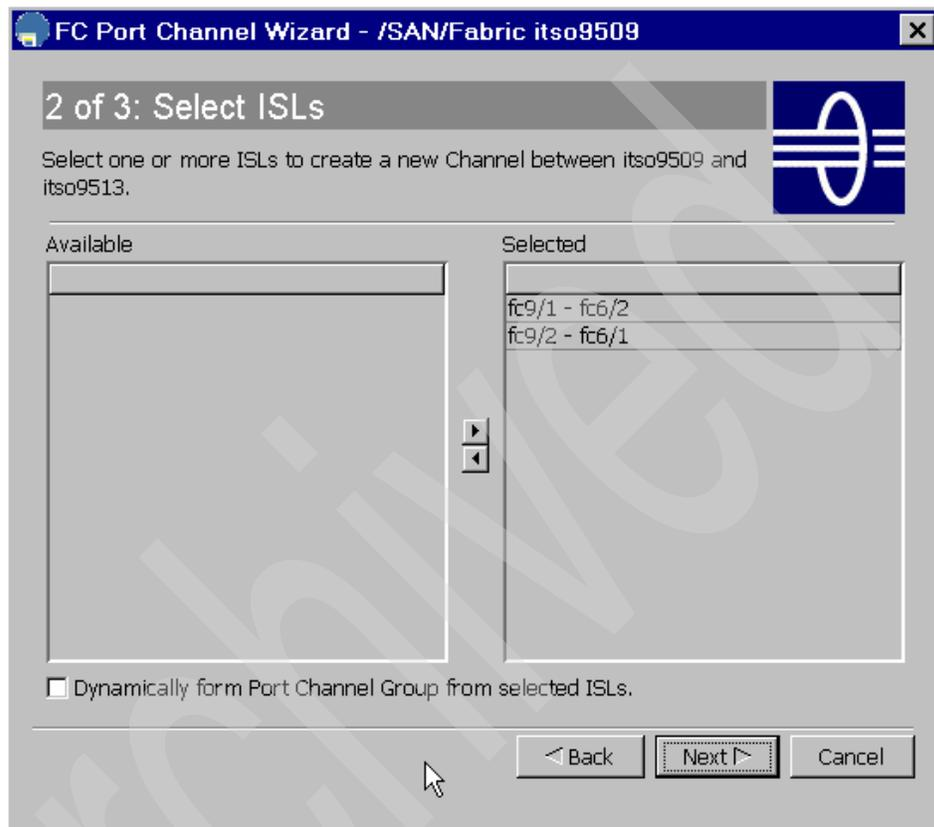

Figure 37 PortChannel ISL selection panel 2
- The box to Dynamically form Port Channel Group from selected ISLs is not selected because we want to designate the FICON Port address ourselves. To proceed with the configuration of the PortChannel, click **Next** (Figure 37).